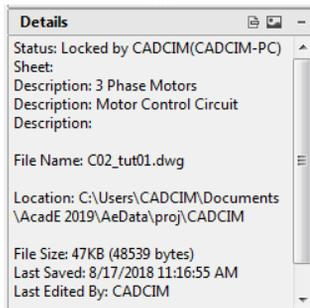

Figure 2-61 The Details rollout displaying the description of C02_tut01.dwg
6. Choose the **OK** button from the **Create New Drawing** dialog box; you will notice that the drawing that you created gets added to the active project. To view the drawing that you created, double-click on **CADCIM** in the **PROJECT MANAGER**; the drawing list is displayed and the drawing *C02_tut01.dwg* appears in bold text in the **PROJECT MANAGER**. In this case, the active project is **CADCIM**; and therefore, the drawing gets added to this project. Click on the drawing; the details and the preview of the drawing are displayed in the **PROJECT MANAGER**, as shown in Figures 2-61 and 2-62.